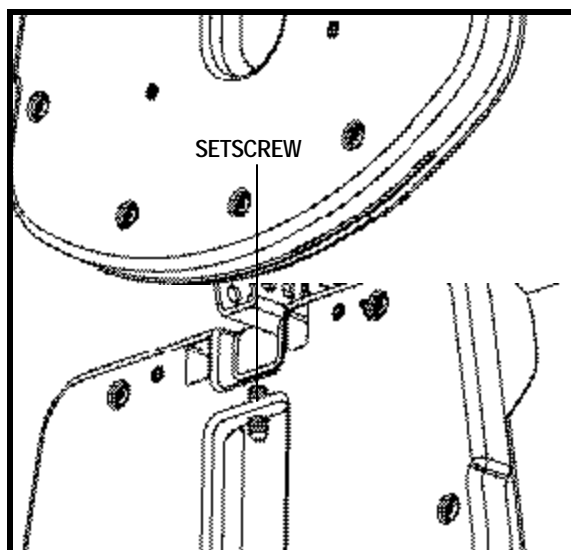

Figure 23. Footrest Angle Adjustment
The footrest angle is easily adjusted to several positions. See figure 23.
1. Flip up the footrest and locate the setscrew. See figure 23.